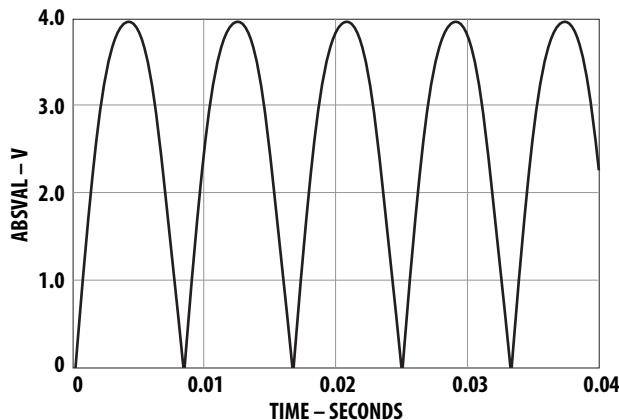

Figure 24. ABSVAL with 1 phase.
4.6: Why is gain defined as $V_{REF}/504$ mV, not $V_{REF}/512$ mV as expected, based on Figure 24?	Ideally gain would be $V_{REF}/512$ mV, however, due to internal settling characteristics, the average effective value of the internal 256 mV reference is 252 mV.